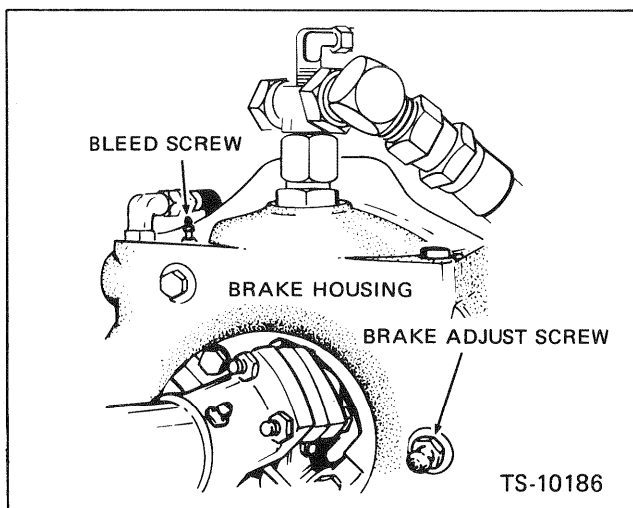

Fig. 13-3 Bleed and Adjust the Brake
- ii. In general the same procedure is to be used to bleed the emergency brake system. See Fig. 13-3.
To insure correct and adequate braking pressure, the brake should be adjusted periodically or whenever necessary. To adjust the brake, loosen the locknut on the adjust screw, Fig. 13-3, tighten the adjust screw clockwise until it is secure. Then loosen the adjust screw counter-clockwise one complete turn and secure with the locknut.